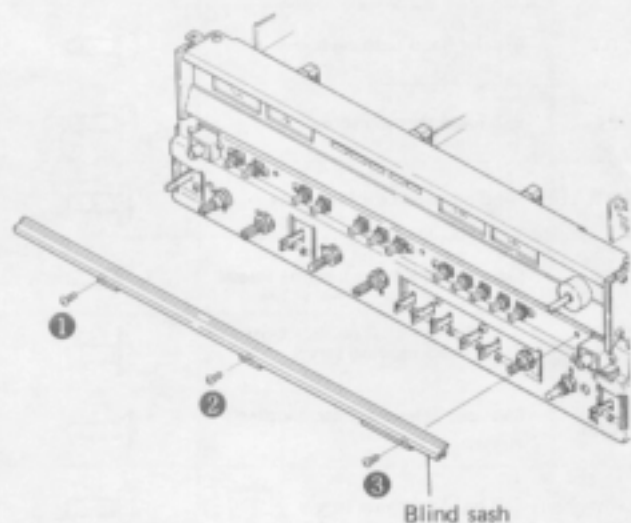

Fig. 16 Remove blind sash
Remove the bonnet and front panel as described in "Disassembly" on page 10. Loosen screws ① - ③ and remove the blind sash as shown in Fig. 16.